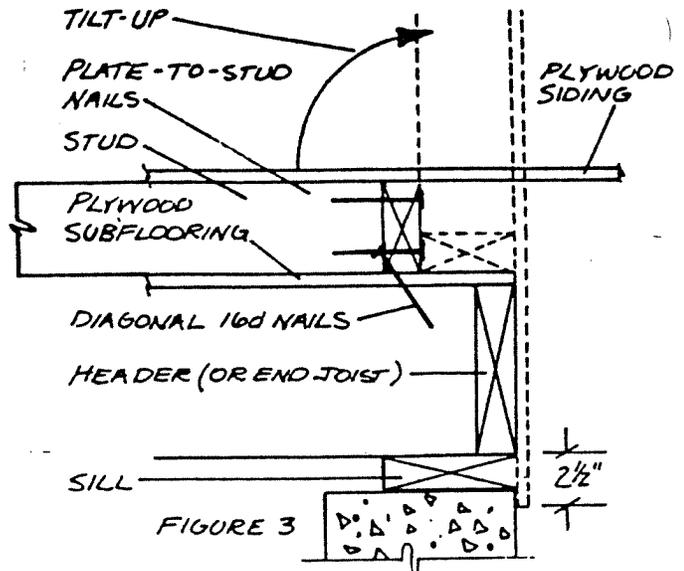

FIGURE 3
5. Assemble long-wall exterior wall sections first. Move the interior wall plates and end exterior wall plates out of the way to clear the floor for working space. (Make sure you've marked their location on both plate and subfloor for later reference.) Remove scaffold nails from exterior wall bottom plates. Tip on edge and nail in place with 16d nails driven diagonally through the plate into plywood subfloor (see Figure 3). Nailing the bottom plate to the subfloor will
9. Erect the wall sections; first the long walls. As you tilt the sections into place, the diagonally driven 16d nails (Figure 3) will withdraw gradually from the floor. Use 16d nails spaced 16" on center to secure the wall sections to the floor. Then build and raise the shorter end walls. Nail them to the floor and to the side walls at the corners.